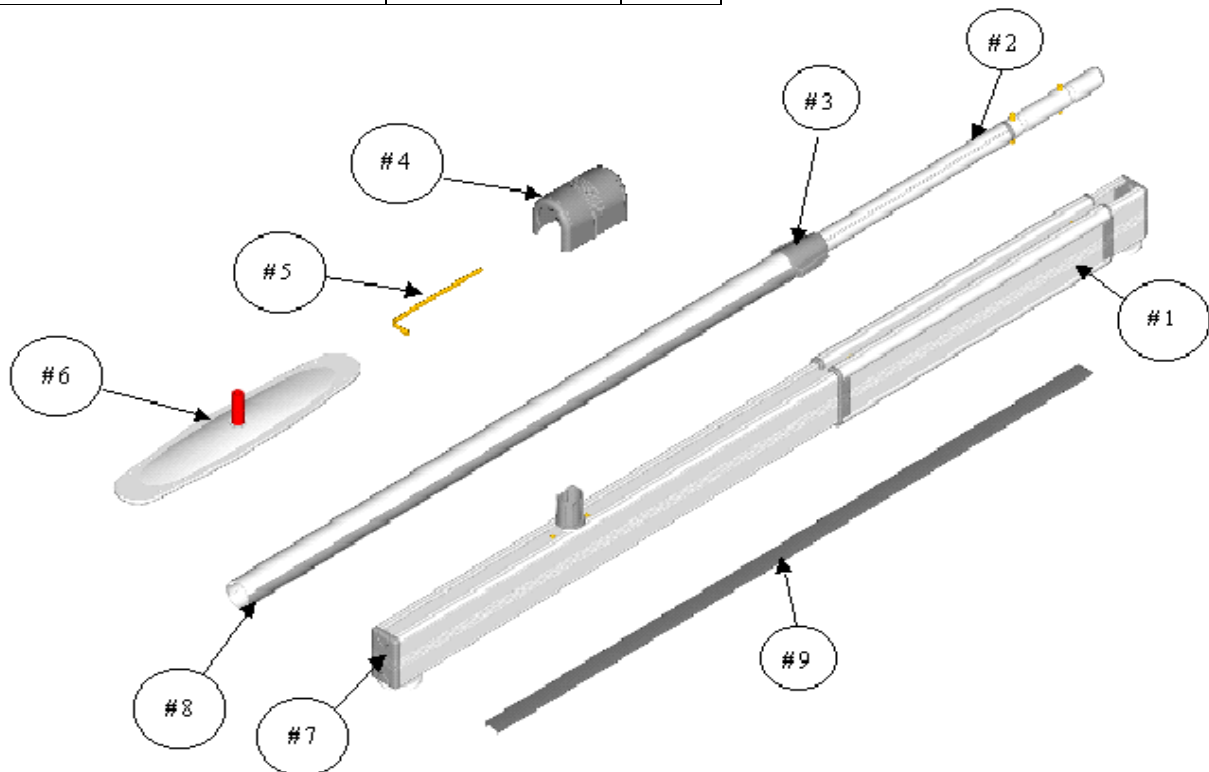
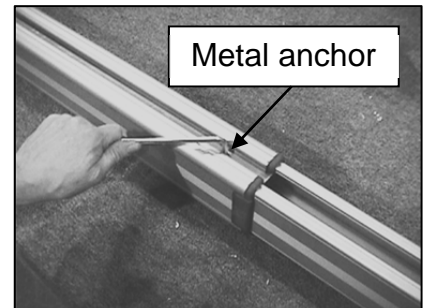
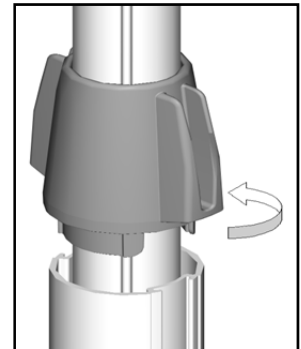

Figure 5
Figure 6
Figure 15
1. Take the bath base rail (see Figure 5 – item #1) out of the box and place it on its supports or "feet".
2. Using a 6 mm Allen key (see Figure 5 – item #5), loosen the screws that hold the metal anchor, loosen the screws to allow the rail to extend and retract freely to fit on your tub (see Figure 6).
9. Take the bath post (see Figure 5 – item #2) and the top plate (see Figure 5 – item #6) out of the box.
14. Lift the blue locking handle out of the lower portion of the post (see Figure 5 - item #3). Using the blue piece as a handle, twist the post as follows (see Figure 15):